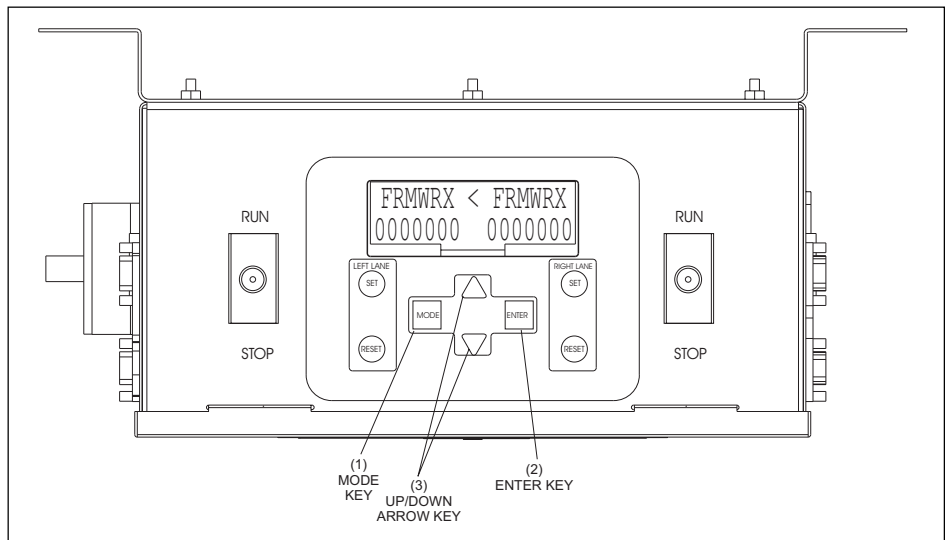

Figure 6-1. Top of Nexgen Controller.
3. To determine the detected reason for the stop, look at the Diagnostic Display located on the top of the Nexgen Controller (*Figure 6-1*).